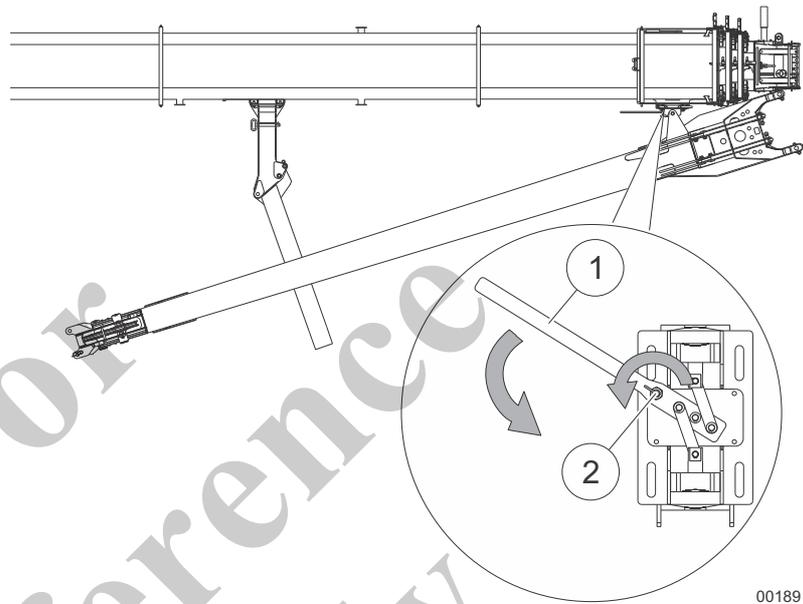

Fig. 200 Engaging the fly boom to the fly boom lock
| 22 | Turn the locking lever (1) in Fig. 200 downwards and turn the retaining lever (2) in Fig. 200 left.